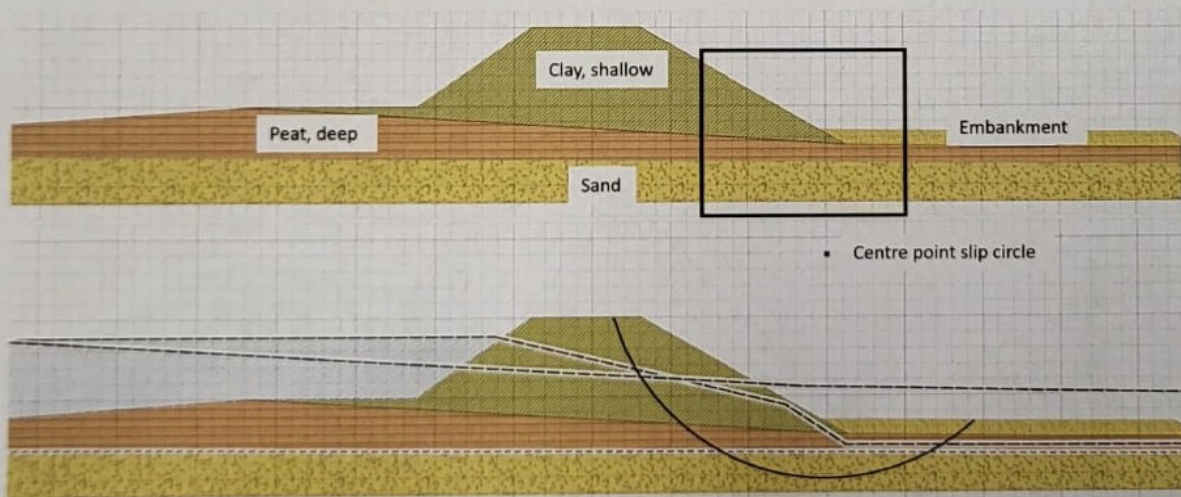

Figure 4: D-Stability screenshots. Top panel: dike geometry and materials. Bottom panel: minimum slip circle Bishop and head lines.
2.3 (4 points) Figure 4 shows two screenshots from D-Stability. The top one shows the dike geometry and the bottom one the head lines and minimum slip circle.